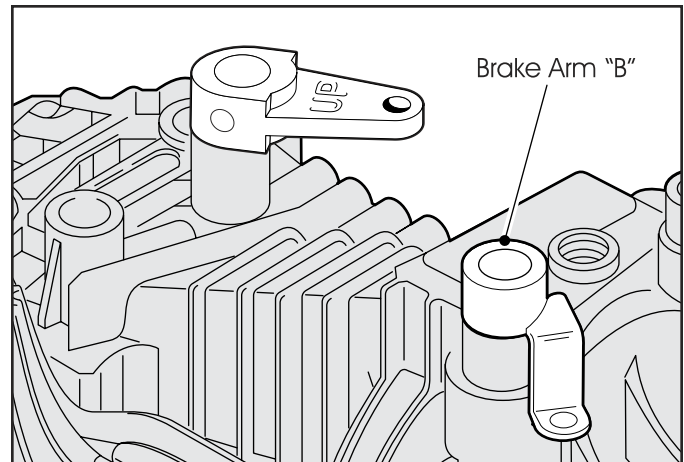

Fig. 11, Brake Arm "B" Assembly
5. Mount the Brake Arm "B" onto the Brake Arm "A"; then, align and secure with Roll Pin. (Fig. 11)